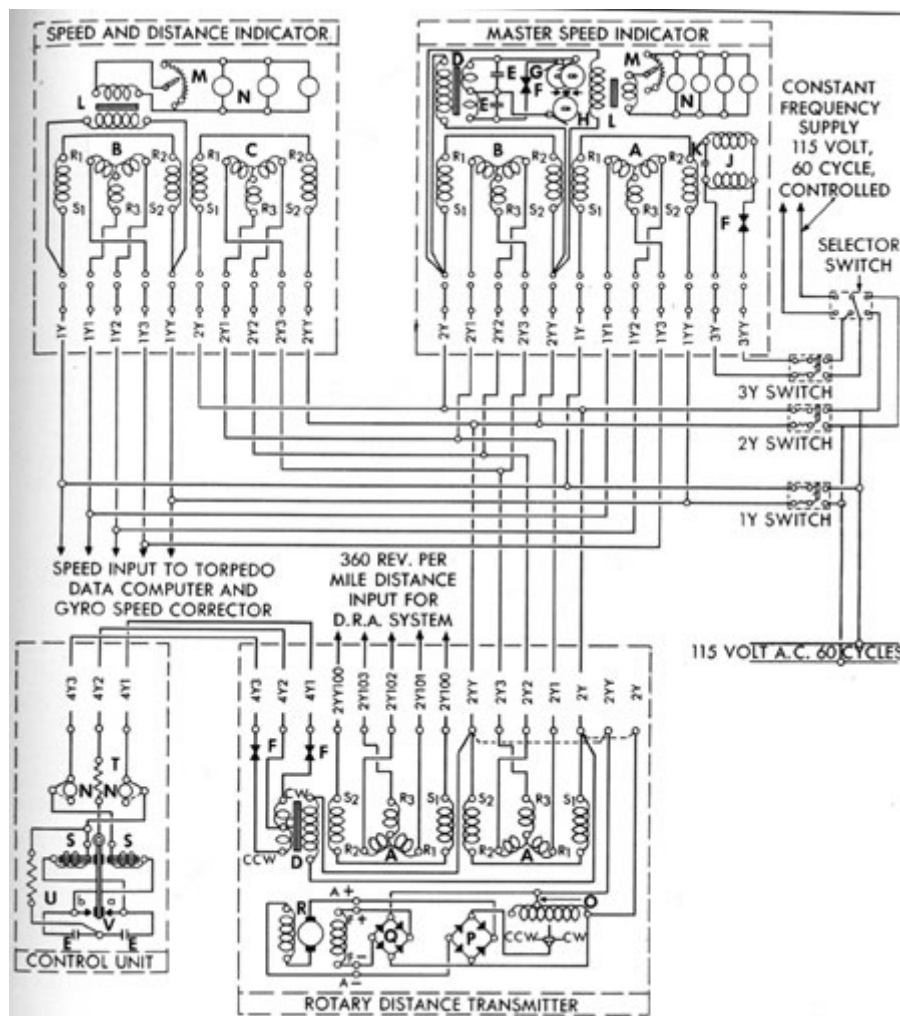

Figure 8-1. Log wiring circuit diagram.
**8A1. Types of circuits.** (See Figure 8-1.) All electrical circuits that connect to the underwater log are known as Y circuits. All underwater logs, regardless of the manufacturer or type have circuits as follows:
**8A2. 1Y circuit.** (See Figure 8-1.) The speed pointer shaft of the master speed indicator drives the transmitter motor for the 1Y circuit. The movement of the pointer shaft positions the rotor of the transmitter in a corresponding angle, and thus positions the repeater motor which rotates to the same angle. The R1 and R3 internal connections in the speed and distance indicator speed repeater are reversed because the transmitter is actually rotated in a reverse direction to the pointer in the master speed indicator. The transmitter also feeds into the speed corrector in the gyrocompass, and the speed
**8A4. 3Y circuit.** (See Figure 8-1.) The 115 volt 60 cycle a.c. supply driving the synchronous motor in the master speed indicator is the 3Y circuit. As the entire speed calibration of the log depends on the operation of this motor at constant speed, the 3Y frequency must be held to 60 cycles. To permit the operation of the log if the constant frequency control unit should fail, a selective switch is usually provided that permits the 3Y circuit to operate from the ship's a.c. supply. On some of the latest submarines the ship's a.c. supply is considered accurate enough, and no constant frequency control unit is provided.
**8A3. 2Y circuit.** (See Figure 8-1.) The 2Y circuit is the basic circuit in the Pitometer log, as rotary distance is first obtained in the rotary distance transmitter and is later changed to a speed indication in the master speed indicator.